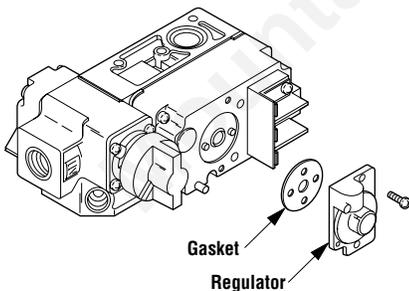

Figure 39
Step 3. Remove three (3) screws from the back of the burner tray. Lift the rear of the burner tray up slightly and to the right to disengage the burner tube from the manifold and orifice. Remove the burner tray.
Step 4. Millivolt Appliances – Remove and replace the regulator assembly located on the front of the gas valve (**Figure 39**). Ensure that the gasket is seated properly and is not kinked.